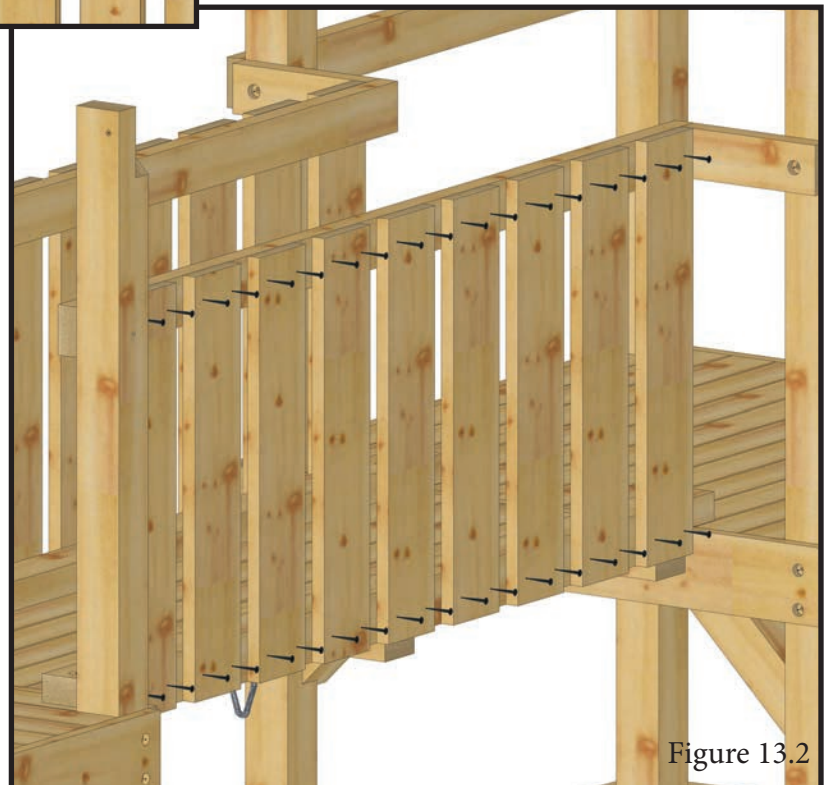

Figure 13.2
13.2 With roughly 2-1/4" spacing between slats, fasten the Pocket Slat 29.5" Boards down to the tower decks with 2" Screws as done in Step 7 and shown in Figure 13.2.